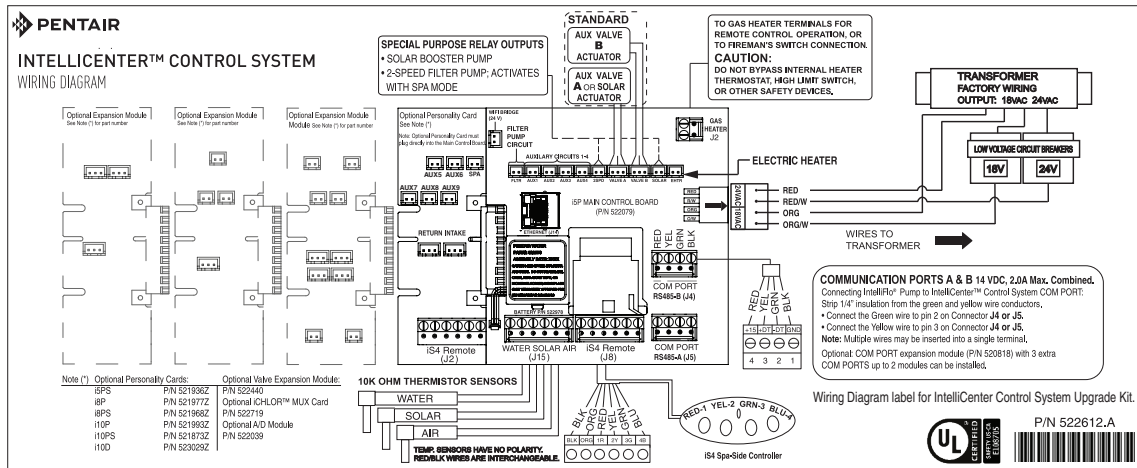

Figure 11. IntelliCenter™ Control System Circuit Board (with optional Expansion Boards shown)
4. If necessary connect the IntelliChlor® SCG wires to COM Port J4. See Figure 11, page 11 for wiring diagram.
Connecting and configuring pool and spa equipment (Figure 11 on next page)